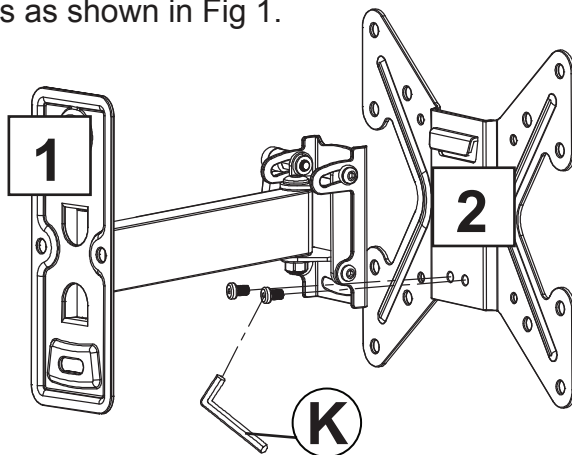

Fig. 1
1. Use the Allen wrench (K) to remove the two M6x12 Bolts and separate the Wall Plate (1) and TV Plate (2) into two pieces as shown in Fig 1.